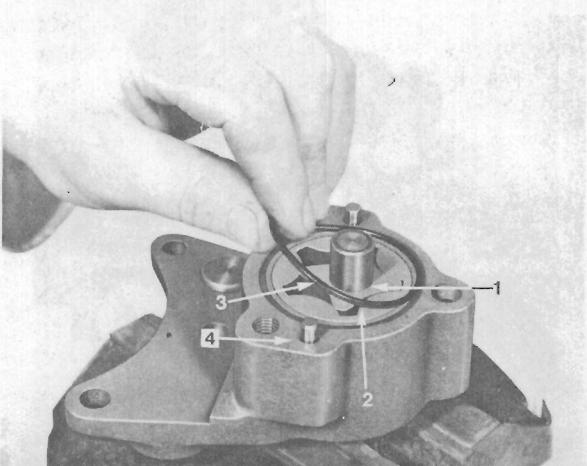

Fig. L.8.
5. Remove the "O" sealing ring from the pump body. See Fig. L.8.